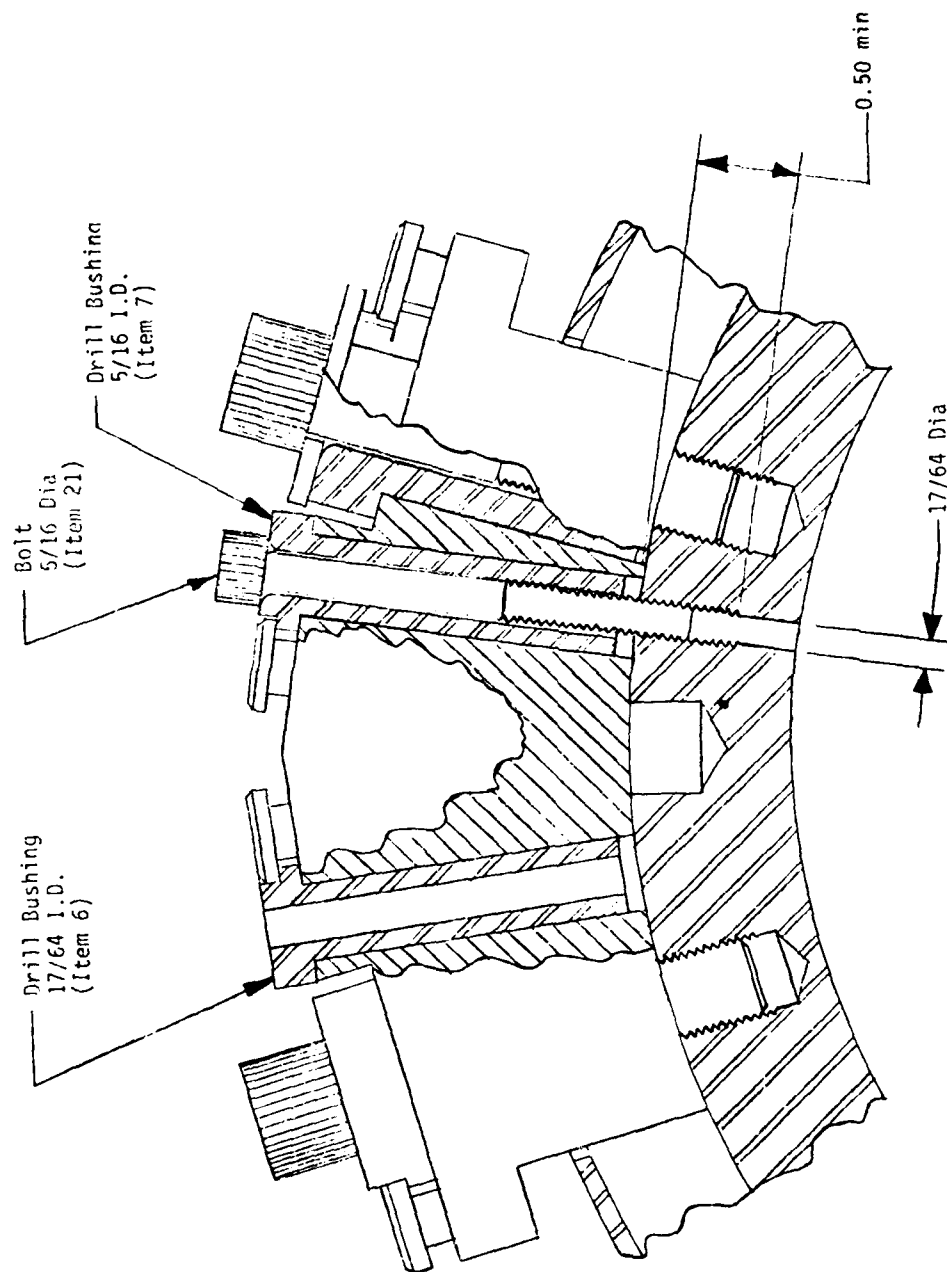

Figure 2. Keensert installation: One clamp bolt installed and ready to drill the second hole.
10. Drill a 17/64-inch-diameter hole through the wing ring, as shown in Figure 2.
13. Use the T-type tap handle (Item 18) and insert the long shank 5/16-18 UNC (Item 14) tap through the tap guide drill bushing. Tap the hole to a depth of 0.50 inch minimum, as shown in Figure 2. Use care to avoid breaking the tap.